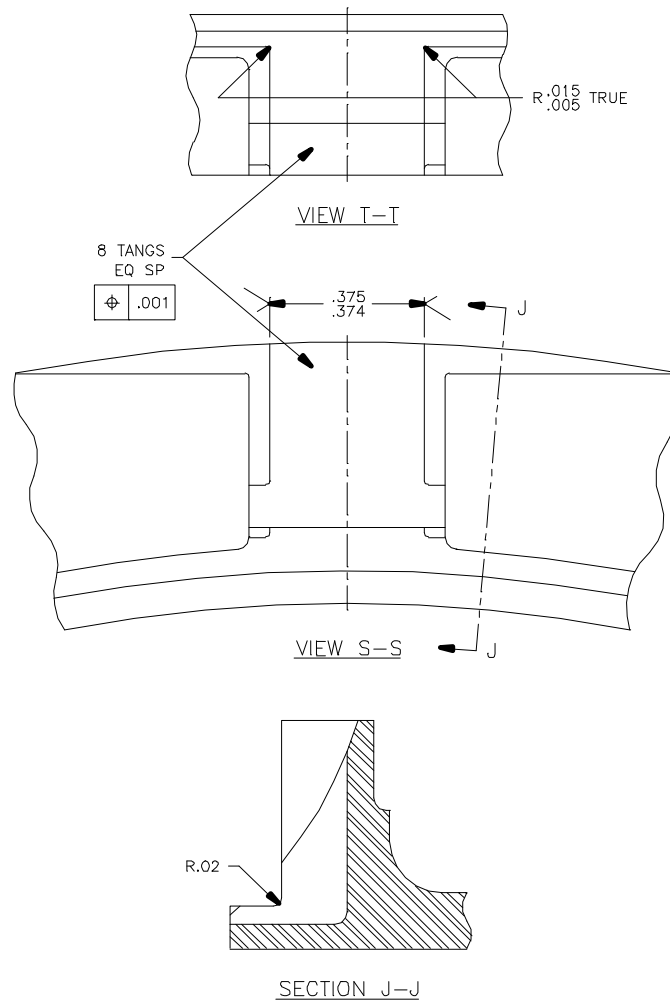

Figure 1
- Lug Flange (Both Sides): Degrease the part. Mask the part to prevent overspray of adjacent surfaces. Brush surface to be metallized with lacquer thinner or methyl ethyl ketone. Metallize per Plasma Spray Coating Nickel-Aluminum Composite (METCO 443, 444 or AMDRY 960) or Nickel Plate per MIL-C-26074. Remove masking carefully and clean off overspray. Remachine to Figure 1 and 2, inspect.